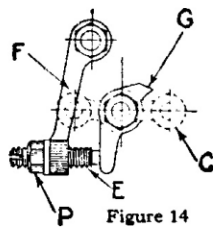

Figure 14
**First and IMPORTANT.** The adjusting screw "E" as shown in Figure 14 should always be set so it will just touch the push finger "G" when the spring arm "C" is in a horizontal position. If screw "E" does not touch push finger "G" or if it is set in too far you will only get a weak spark.